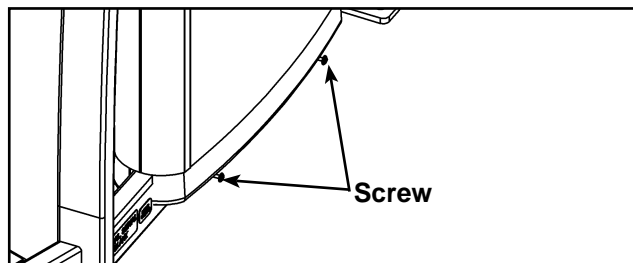

Figure 3
- F. Loosen bottom two screws shown in Figure 3.